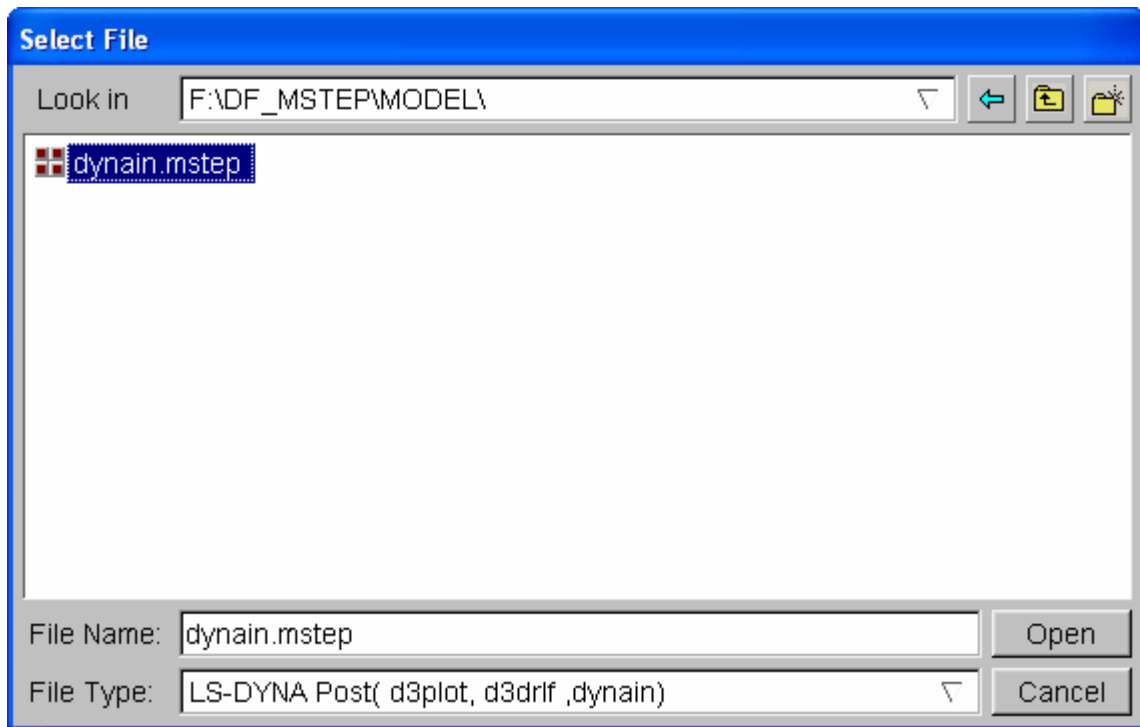

Figure 4.42: Open file window
3. Pop up the dialogue window to open file, select the file of dynain.mstep, and click “Open”, then the result file will be read in, which is shown in the following figure 4.42.